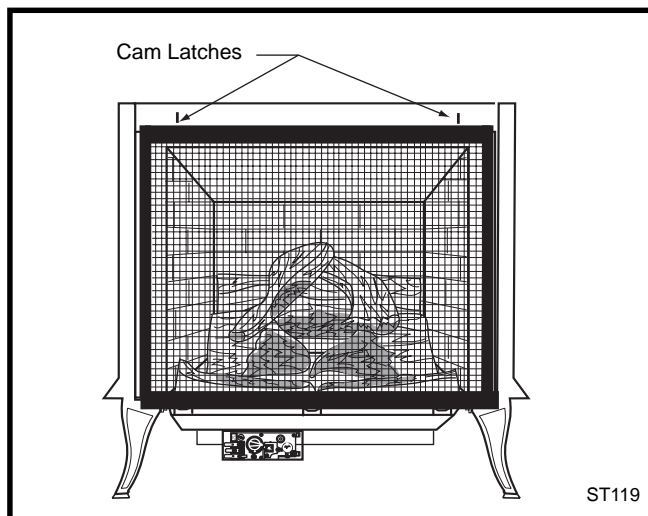

Fig. 29 Swing Cam Latch to free screen frame and remove away from unit.
3. Remove the safety screen by swinging the cam latches on the frame outward. (Fig. 29)